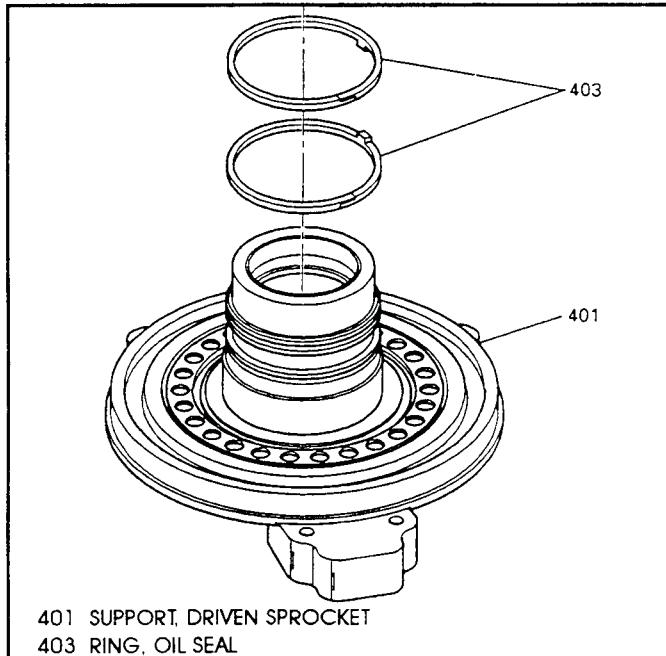

Figure 159
- Install two new sealing rings (403) onto driven sprocket support as shown in Figure 159.